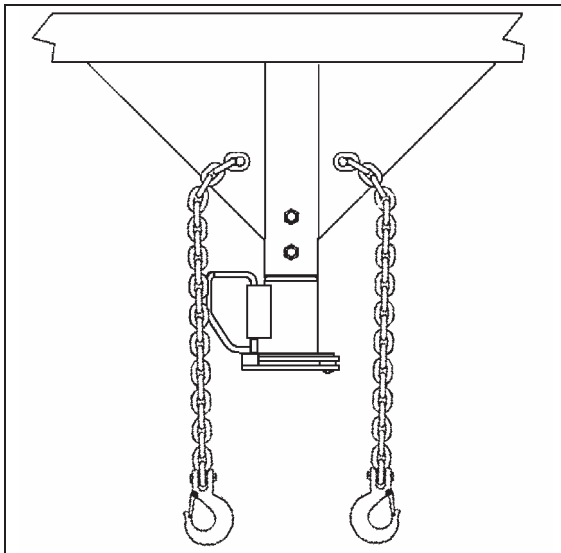

Figure 4-10 – Proper Safety Chain Arrangement
- Rig the safety chains so that they attach to the “safety chain receivers” in the bed of the truck. See figure 4-10. If you are not certain of the provisions for receiving safety chains, contact the hitch manufacturer or installer. Do NOT attach the safety chains to the gooseneck ball or its support; and